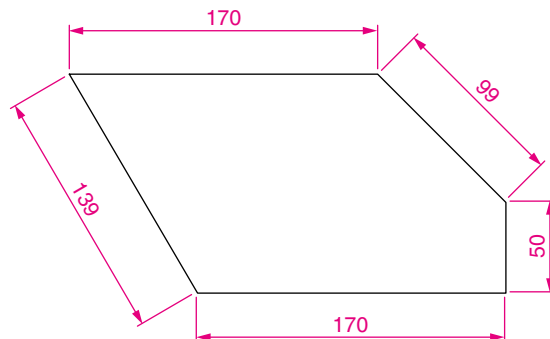

Fig. 6.5 Second example – Aligned dimension
Second example – Aligned Dimension (Fig. 6.5)
1. Construct the outline Fig. 6.5 using the **Line** tool.
1. Construct the outline Fig. 6.5 using the **Line** and **Fillet** tools.